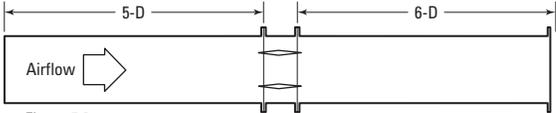

Figure 5.3
**AMCA Figure 5.3 - Ducted Inlet and Outlet**
Pressure drop testing was performed by an independent laboratory to the AMCA Standard 500-D, Fig. 5.3 (ductwork upstream and downstream).